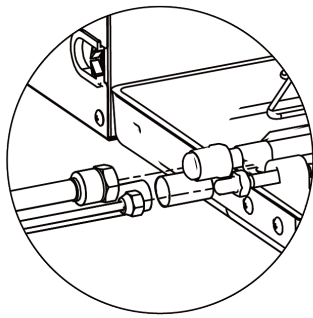

Fig. 16
- (1) Remove pipe cover and pipe plug.
- (2) Direct the flared part of copper pipe to the center of screwed joint. Twist on the flared nut tightly by hand, as in Fig.16 (Make sure indoor pipe is correctly connected. Improper location of the center will prevent flared nut from being securely twisted. Thread of nut will get damaged if the flared nut is twisted forcibly).